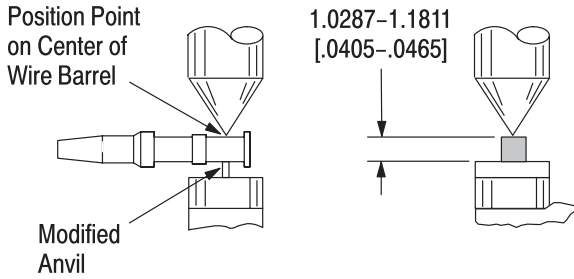

Figure 5
*This tool is provided with a crimp adjustment feature. Initially, the crimp height should be verified as specified in Figures 5 and 6. Refer to Section 5, INSPECTION, and Section 6, CRIMP HEIGHT ADJUSTMENT, to verify crimp before using the tool to crimp desired connectors and wire sizes*
This inspection requires the use of a micrometer with a modified anvil as shown in Figure 5.
3. Using a crimp height comparator, measure the crimp height as shown in Figure 5. If the crimp height conforms to that shown, the die assembly is considered dimensionally correct. If not, return the dies to Tyco Electronics for evaluation and repair (refer to Section 8, DIE REPLACEMENT).